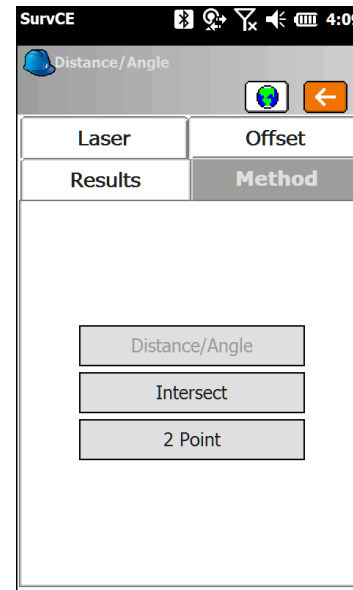

Figure 7
3. To measure an offset to a point with the laser, tap the “O” button and then select Distance/Angle from the Method tab (Fig.7) \*NOTE: this method works with any of the TruPulse 360 models with an electronic compass